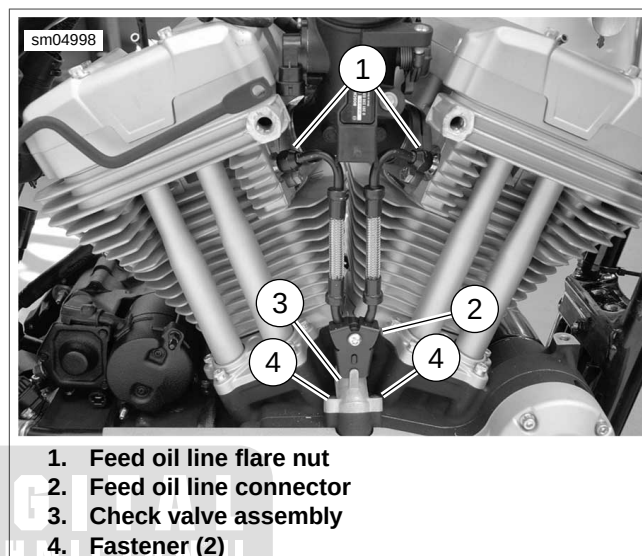
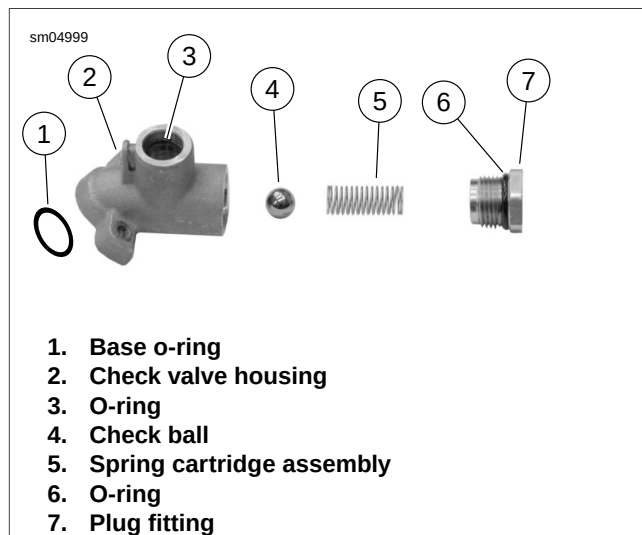

Figure 3-34. Cylinder Head Oil Feed Assembly
Figure 3-35. Check Valve Components
3. See Figure 3-34. Disconnect flare nuts (1) from each cylinder head.
4. Pull oil feed hose connector (2) straight up to remove feed hose assembly from check valve assembly (3).
5. Remove two fasteners (4) and remove check valve assembly (3).
6. See Figure 3-35. Carefully clamp assembly in vise and remove plug fitting (7).
7. Remove spring (5) and ball (4).
1. See Figure 3-35. Install ball (4) and spring (5) into housing (2).
6. See Figure 3-34. Push oil feed hose assembly straight down to install. Connect oil line flare nuts (1) to cylinder head flare fittings. Hold lines to prevent rotation and tighten to 13-17 ft-lbs (17.6-23.0 Nm).